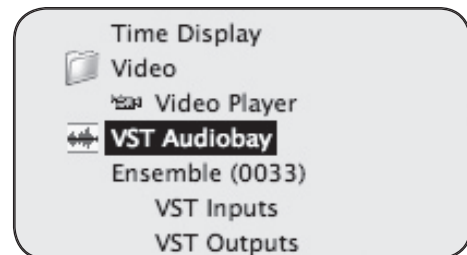

figure 30
1. In Nuendo, open **Devices > Device Setup** and select **VST Audiobay** in the **Devices** column. (figure 30)